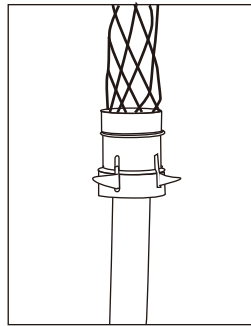

Fig. 11
3. Push down on the mesh while twisting the wire to release the cams (Fig 11).